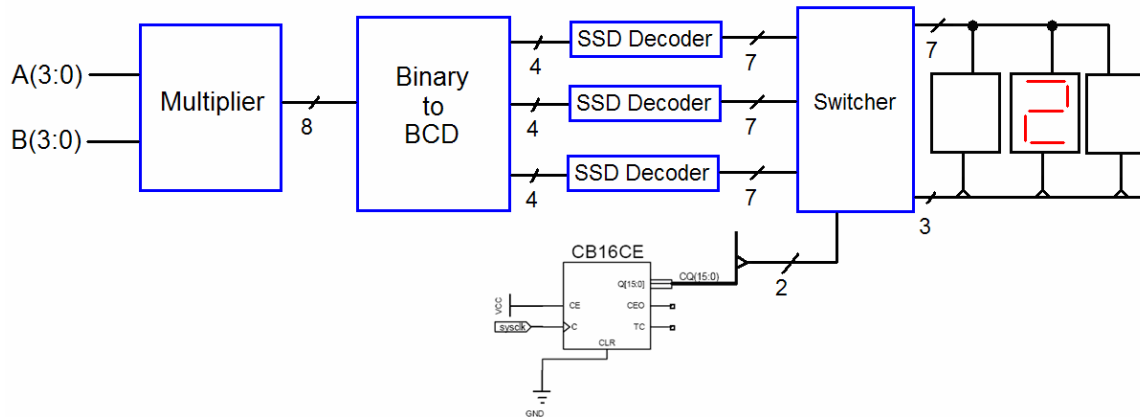

Figure 6: Overall block diagram of the circuit consisting of the 4x4 multiplier, converter, 7-segment display decoders, switcher and display.
7. Create the top level schematic, similar to Fig. 6. It should have two four bit inputs, which we will control on the board with the switches. There should also be an input from the system clock. The outputs should be a 7-segment signal to the cathodes and a 3-bit signal to the anodes of the 7-segment display. You should also add an extra output bit to turn off the anode of the unused fourth display rather than leaving it hanging.